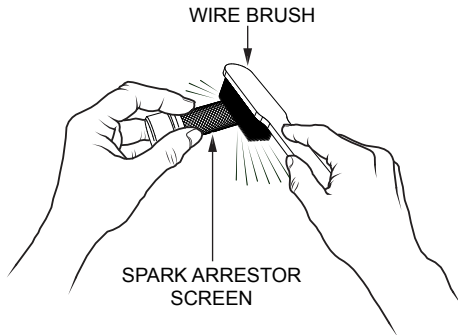

Figure 36. Cleaning The Spark Arrester
3. Carefully remove carbon deposits from the spark arrester screen (Figure 36) with a wire brush